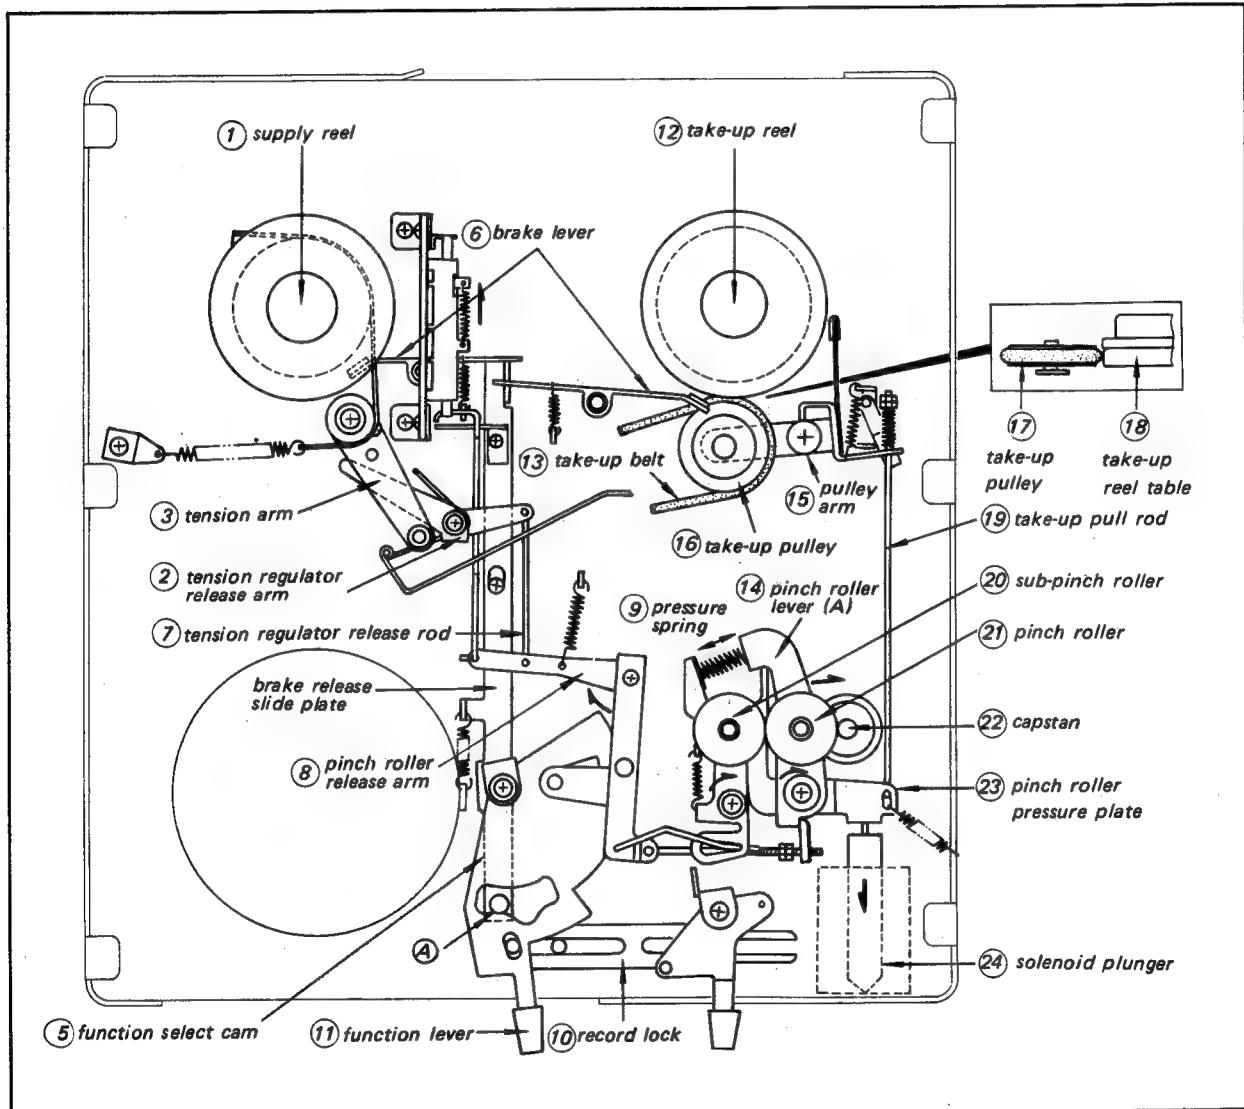

Fig. 9-3 Forward mode tape transport
The brakes applied to the Supply and Take-Up Reel Tables in the stop mode are released in the play mode. See Fig. 9-3.
Pinch Roller pressure is applied against the Capstan when the Solenoid is energized. Refer to Fig. 9-3. When power is applied to the Solenoid, the plunger moves in the direction indicated by the arrow, rotating the Pinch Roller Pressure Plate clockwise and thus compressing the Pressure Spring. This causes Pinch Roller Lever ④ to rotate clockwise, forcing the Pinch Roller against the Capstan.
A simple mechanical servo is employed to provide tape tension control. See Fig. 9-3.
The audio dub mechanism may be operated only in the play mode. See Figs. 9-3 and 9-5.